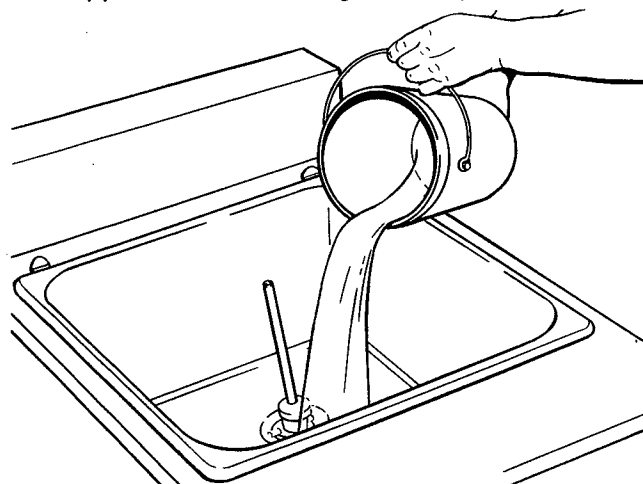

Figure 10. Sanitizing Procedure
- B. Prepare 2 gallons (7.5 liters) of sanitizing solution following manufacturer's instructions. Pour into hopper with mix inlet regulator in place (Fig. 10).